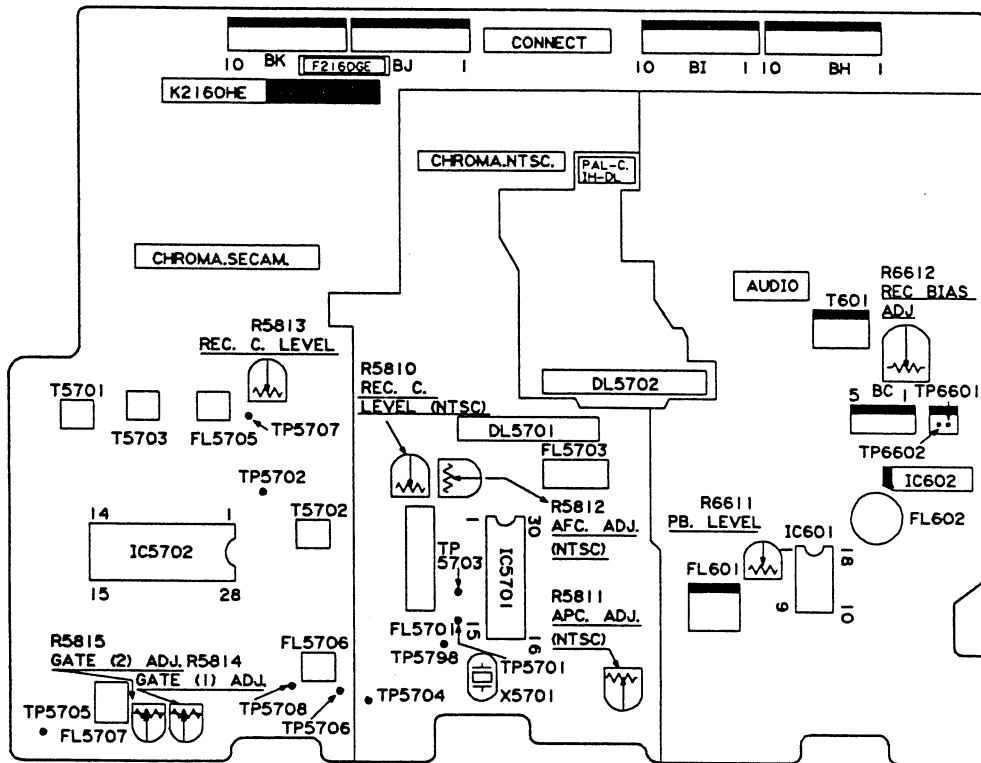

Figure 2-17.
b) In the case of NTSC 3.58MHz (refer to chroma circuit, Fig. 2-17)
(refer to chroma circuit, Fig. 2-17)